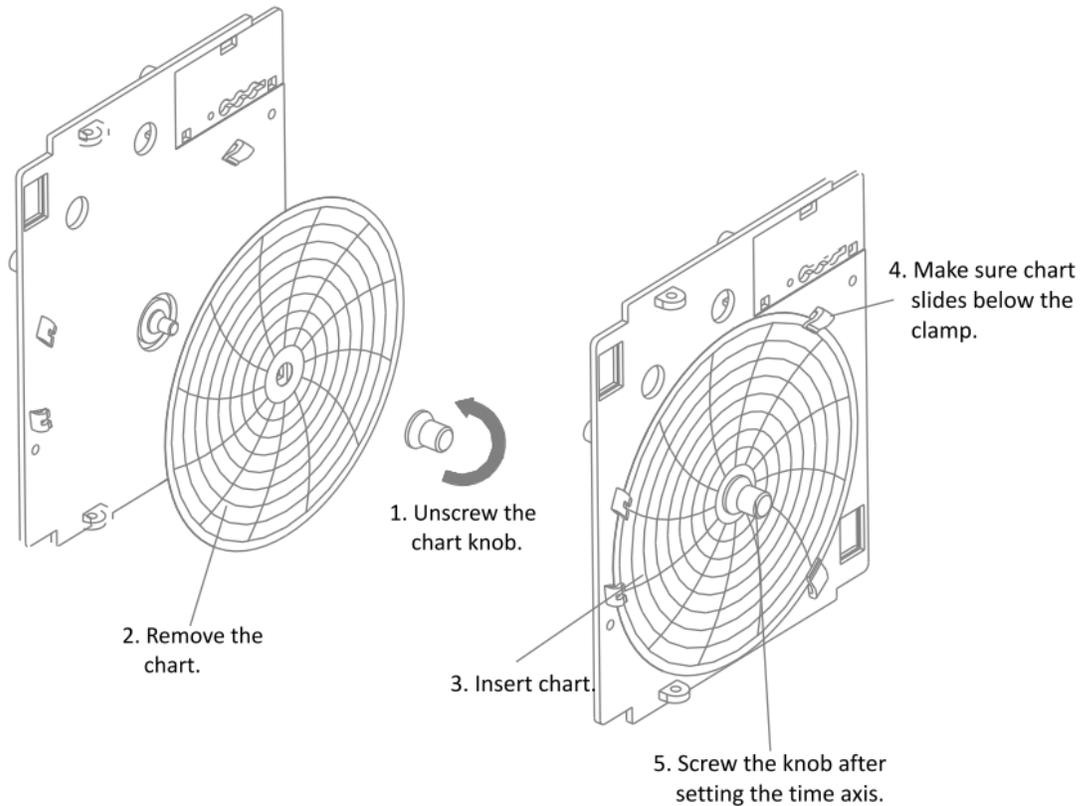

Figure 7 Chart Fitting
3. Unscrew the chart knob as shown in figure 7.
6. Screw the knob after setting time axis. Make sure that chart slides below the clamp as shown in Figure 7.